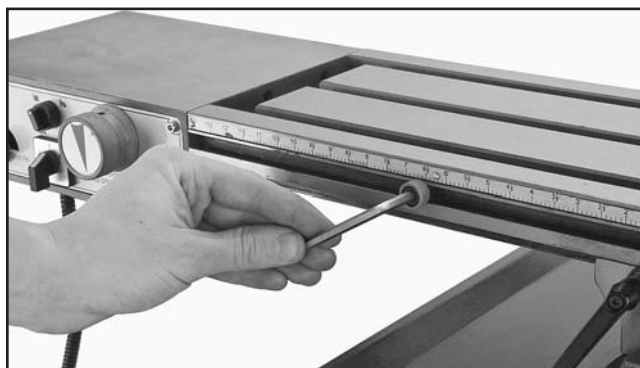

Figure 17. Removing the round table stops.
17. Using a 5mm hex wrench, remove the (2) round table stops, as shown in **Figure 17**.